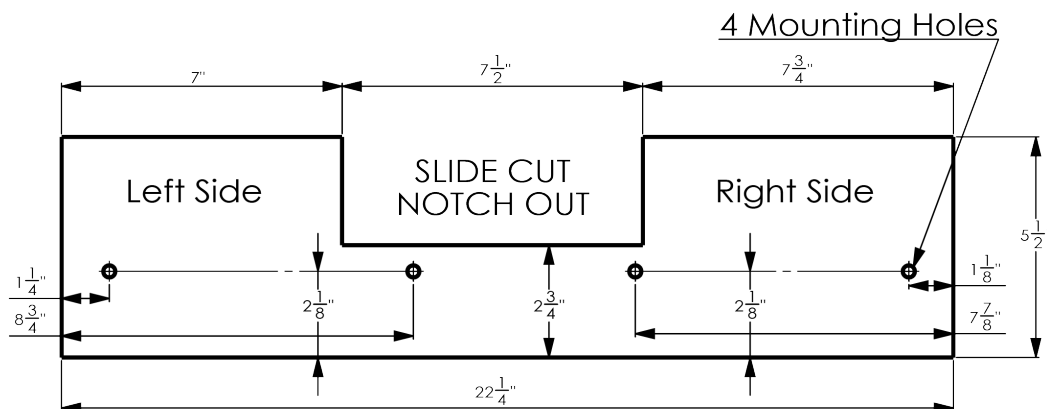

Figure 25
1. See figure 25 for auxiliary fence dimensions.
7. The notch shown in figure 25 must be cut out in order to make slide cuts using the auxiliary fence.